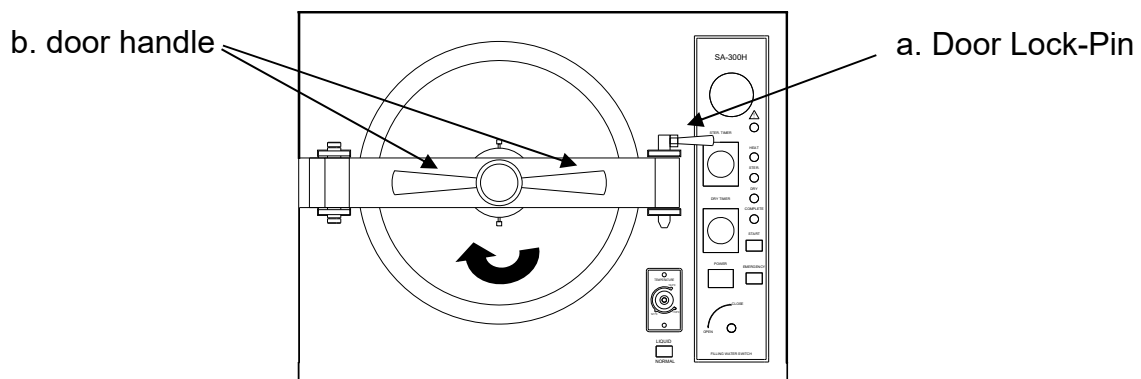

Figure 22
- E. Press the “POWER” switch to ON “I” position, the power indicator light should illuminate with a short beep. The “DOOR” indicator light should be off. (See Figure 22)